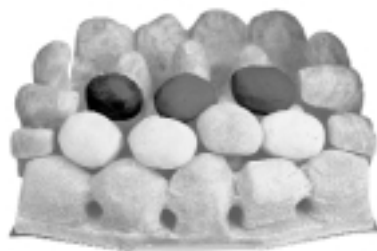

Fig. 33
6. Choose three loose pebbles and place them in line on the next row up, again making sure all the gaps are even. It is important that the pebbles 'bridge' the peaks of the fuel bed and are not placed in between. This helps the flow of burnt gases and should give an even glowing fuel bed (Fig. 33).